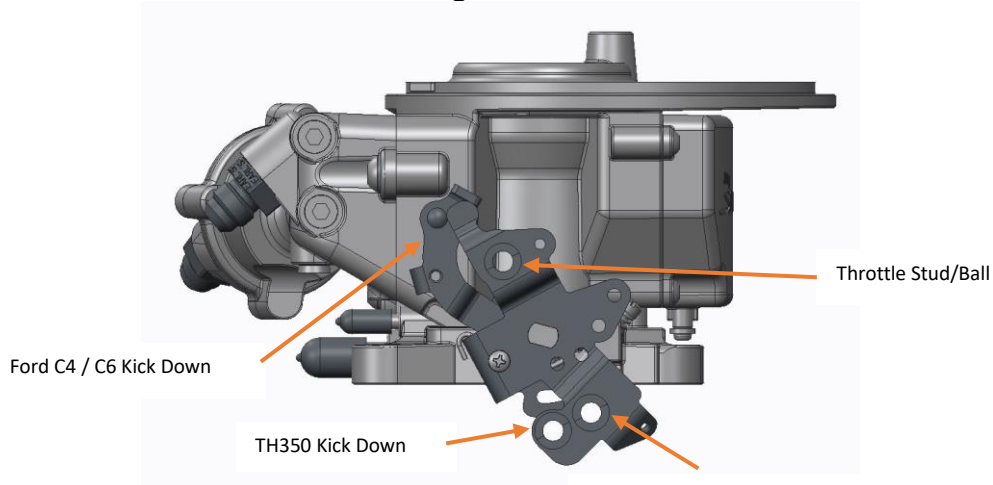

Figure 3 200-4R / 700-R4 Kick Down
3. Reconnect the throttle and transmission kick-down linkage. Be sure to check for any binding conditions and correct before proceeding. Poorly routed throttle cables & linkages can cause throttle pedal issues. See figure 3 for correct linkage placement.